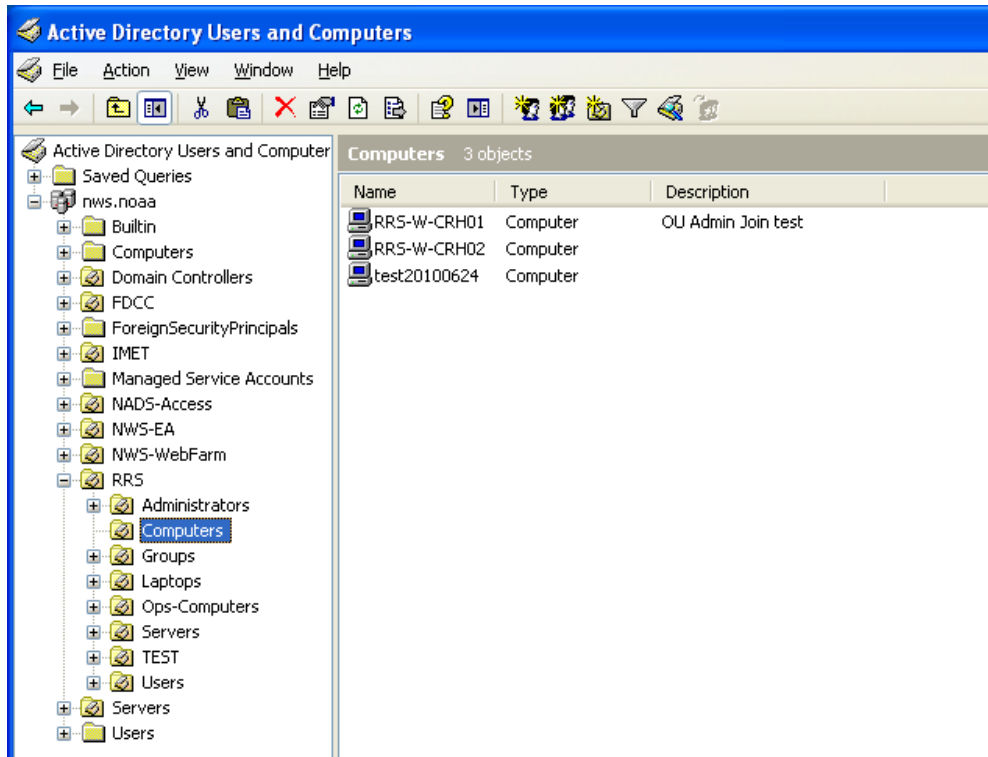

Figure B-4: Active Directory Users and Computers Window
4. Click **Active Directory Users and Computers** to open the *Active Directory Users and Computers* window (Figure B-4).